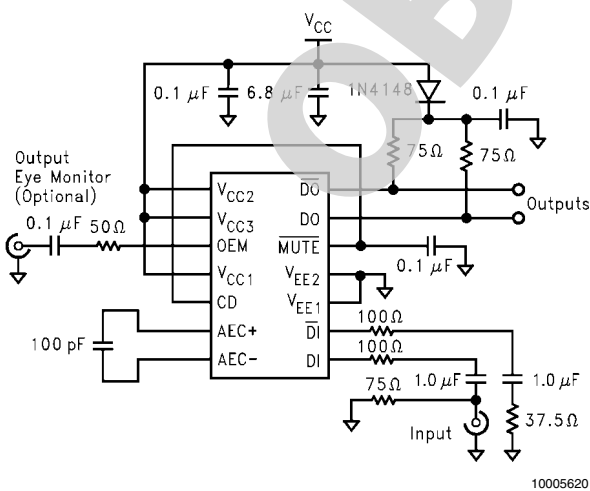

FIGURE 1. CLC014 Equalizer Application Circuit
Carrier Detect (CD) is a CMOS output that indicates the presence of equalized data from the filter. This CD output can be connected to $\overline{\text{MUTE}}$ to suspend changes in the data outputs DO and $\overline{\text{DO}}$, if no valid signal exists. This simple configuration prevents random output transitions due to noise. For sparse transition patterns it is recommended that a capacitor be connected to CD as shown in Figure 1.
The OEM is a high-speed, buffered output for monitoring the equalized eye pattern prior to the output comparator. Its output is designed to drive an AC-coupled 50 Ohm coaxial cable with a series 50 Ohm backmatch resistor. The cable should be terminated with 50 Ohm at the oscilloscope. Figure 1 shows a schematic with a typical connection.
The CLC014 operates from either +5V or -5.2V single supplies. Refer to Figure 1 when operating the part from +5V. When operating with a -5.2V supply, the V_{EE} pins should be bypassed to ground. The evaluation board and associated literature provide for operation from either supply.